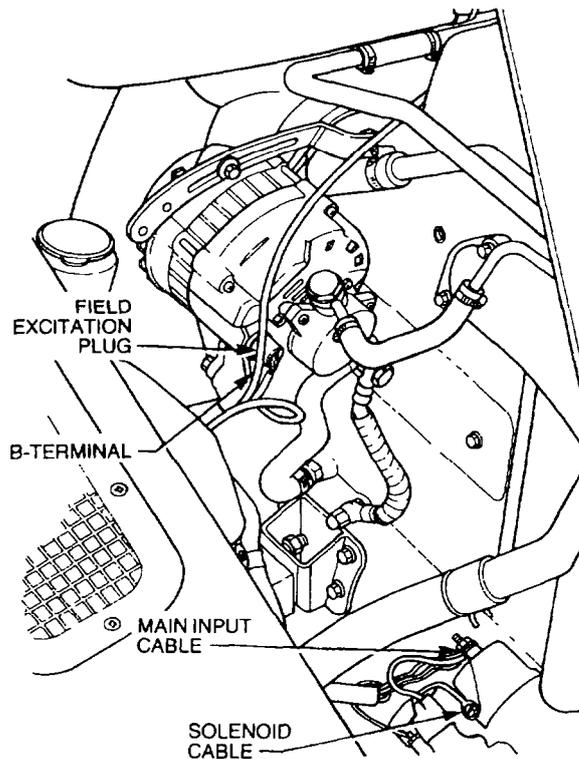

Figure 8 Alternator and Starter Motor Cables
- u. Remove the field excitation plug from the alternator (Figure 8). Remove the nut securing the cable to the B-terminal of the alternator, remove the wire from the terminal and install the nut.
- v. Remove the nut securing the main input cable to the starter motor (Figure 8). Remove the cable and install the nut.
- r.** Connect the main input cable and the solenoid cable to the starter motor (Figure 8).
- s.** Connect the cable to the B-terminal of the alternator (Figure 8). Connect the field excitation plug to the socket at the rear of the alternator.